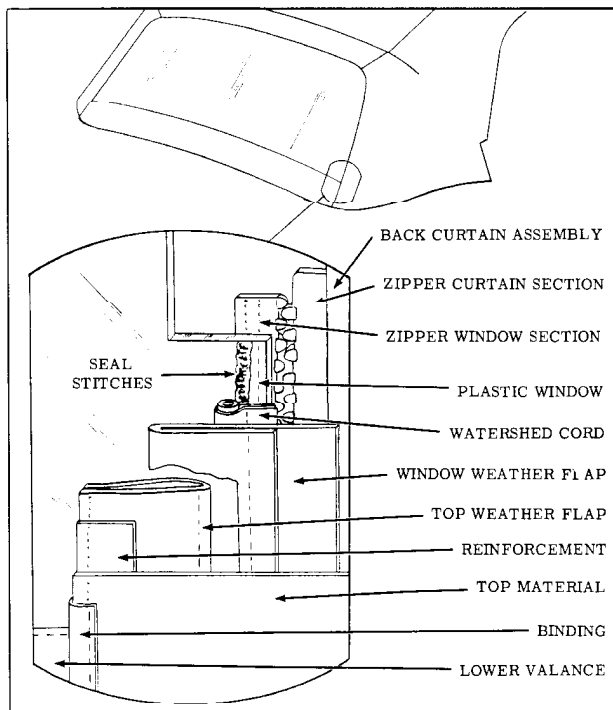

Fig. 17-128 Back Curtain Sealing
6. Place back curtain window assembly on clean covered work bench with exterior (vinyl) surface of back window valance facing upward. (Large pliable back window must be handled carefully to avoid possible damage due to scratches, abrasions, etc.) Using hand oiler, apply bead of neoprene-type weatherstrip adhesive to both stitches which secure back window to zipper and back curtain water deflector. (Fig. 17-128)